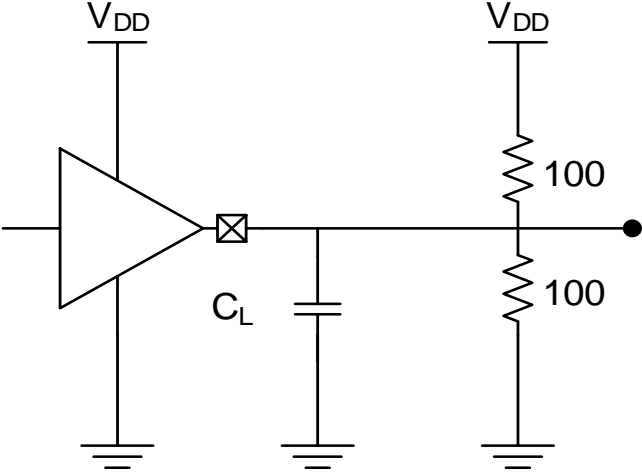

Figure 17. Equivalent Load Circuit for Timing Characteristics Tests
1. All outputs are measured using the load conditions shown in Figure 17.